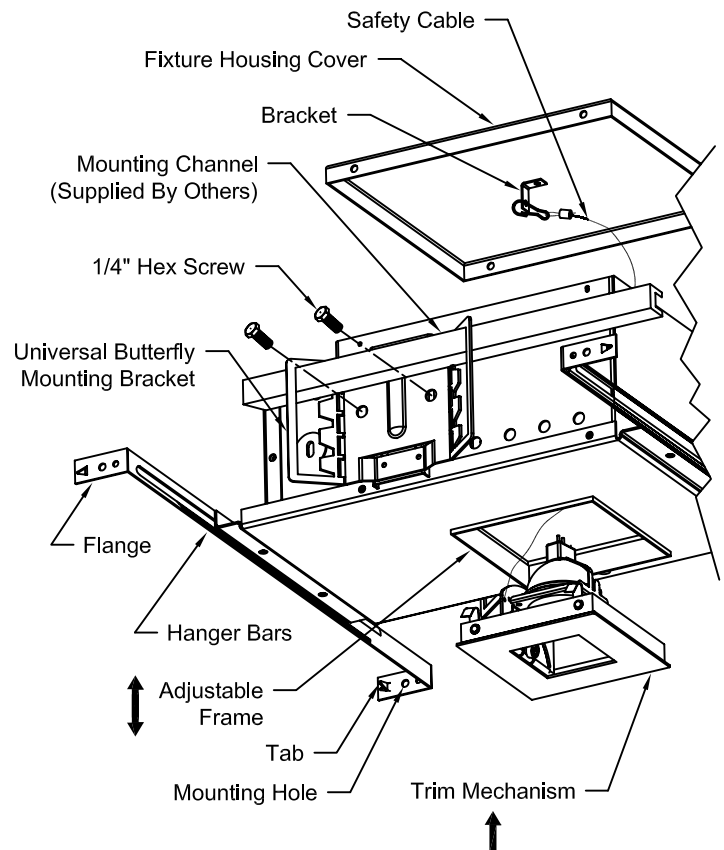
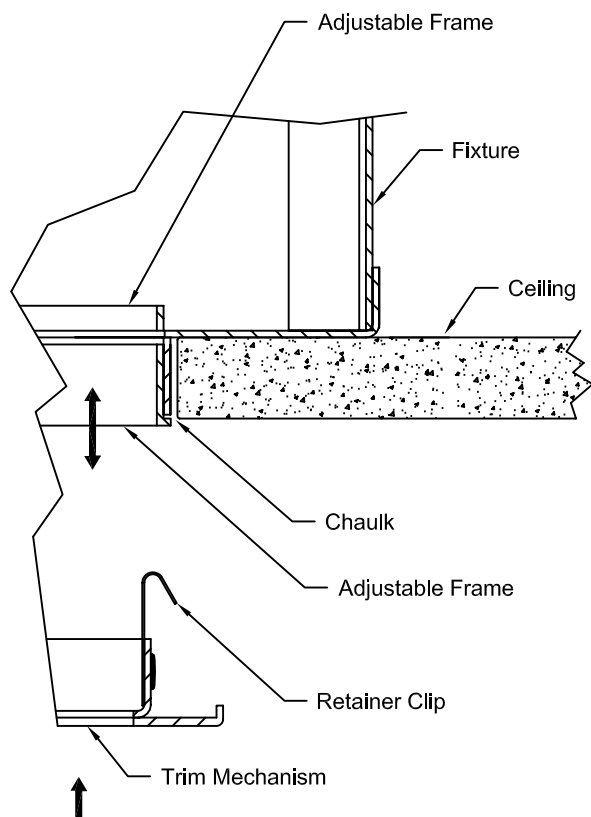
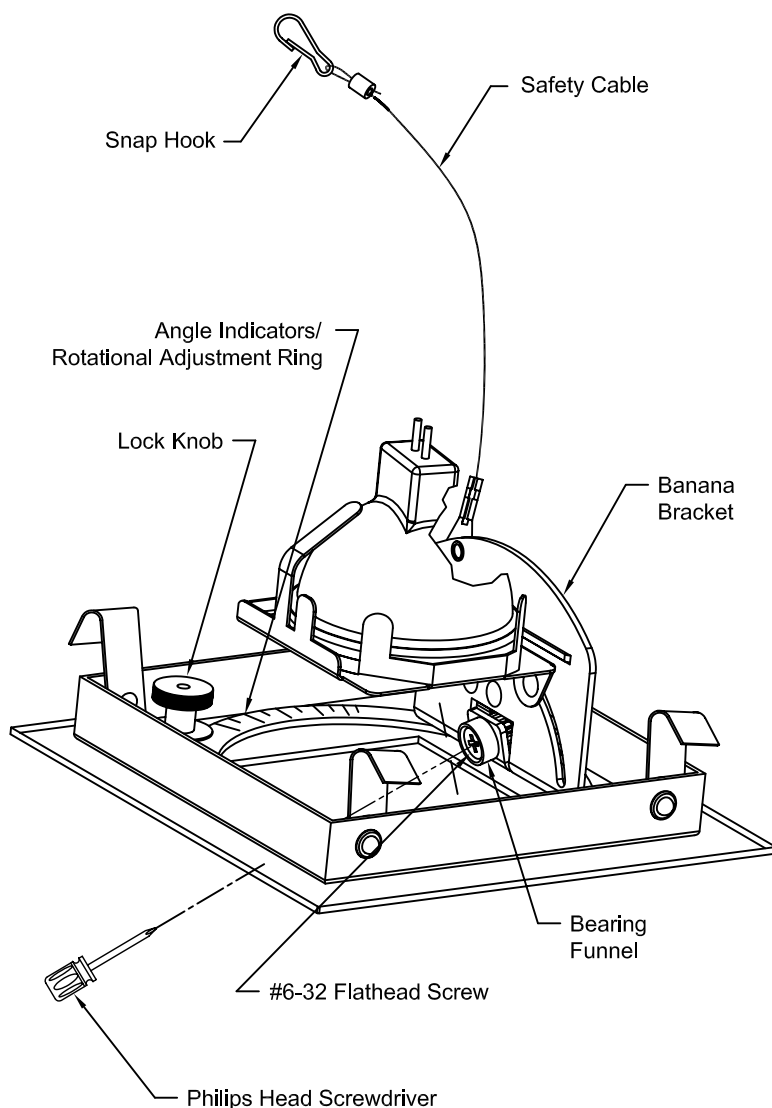

Figure 1
Figure 2
Figure 4
1. Fixture comes equipped with Universal Butterfly Mounting and can take common 1 inch or 1-1/2 inch Black Iron or Galvanized Mounting Channels (Supplied By Others). See Fig. 1.
5. Adjust elevation of Fixture so Adjustable Frame Edge will be flush with surface of finished Ceiling by loosening two (2) 1/4 inch Hex Screws on both Universal Butterfly Mounting Brackets. See Fig. 1.
6. Tighten two (2) 1/4 inch Hex Screws on both Universal Butterfly Mounting Brackets to secure Fixture. See Fig. 1.
7. Install Ceiling drywall up to Adjustable Frame on Fixture. See Fig. 2.
8. Position Adjustable Frame to be in plane with Ceiling by sliding up or down. See Fig. 2.
3. Hammer Flanges to seat Hanger Bar Tabs in rafters. See Fig. 1.
4. Secure Hanger Bars using one (1) nail in Mounting Hole in each Flange.
5. Install Ceiling drywall up to Adjustable Frame on Fixture. See Fig. 2.
6. Position Adjustable Frame to be in plane with Ceiling by sliding up or down. See Fig. 1 & Fig. 2.
1. Connect Safety Cable attached to Banana Bracket on Trim Mechanism (See Fig. 1 & Fig. 4) to Fixture by inserting Safety Cable through opening in Fixture and inserting Snap Hook (See Fig. 4) on end of Safety Cable into hole in Bracket attached to inside of Fixture Housing Cover (See Fig. 1).
2. Install Trim Mechanism into Fixture by pressing firmly to engage Retainer Clips. See Fig. 2.
1. With power ON and Trim Mechanism in place, Insert Phillips Head Screwdriver through Hole or Slot in Trim into Bearing Funnel. See Fig. 4.
2. To re-aim Lamp, turn #6-32 Flathead Screw to desired position using visual Angle Indicators on Banana Bracket. See Fig. 4.